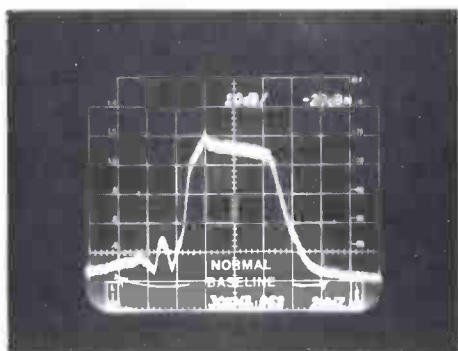
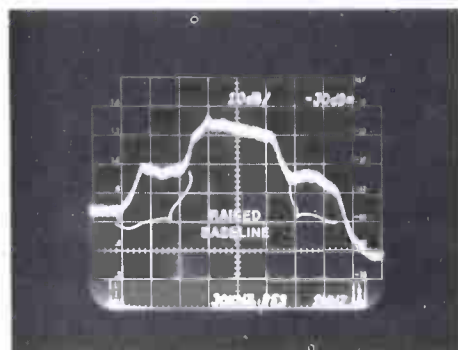

Fig. 15 Normal display.
Fig. 16 Overload display.
- A high power RF transmitter can easily overload the mixer in the spectrum analyzer. RF test points should be "padded down" to 0 dB before connecting the spectrum analyzer to the test point. An overload generally appears as an erratic display similar to Fig. 16. Insert attenuation with the internal or external pads until the display appears similar to Fig. 15 and remains stable.